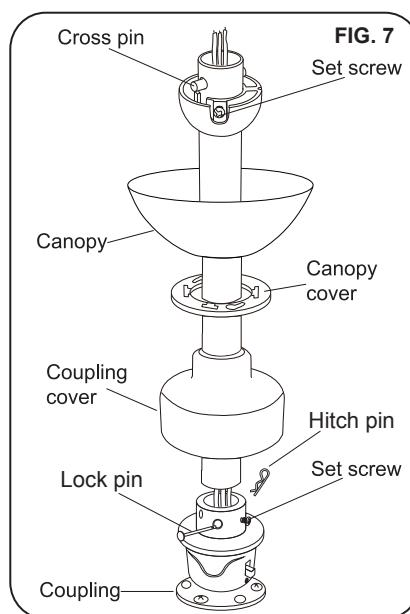
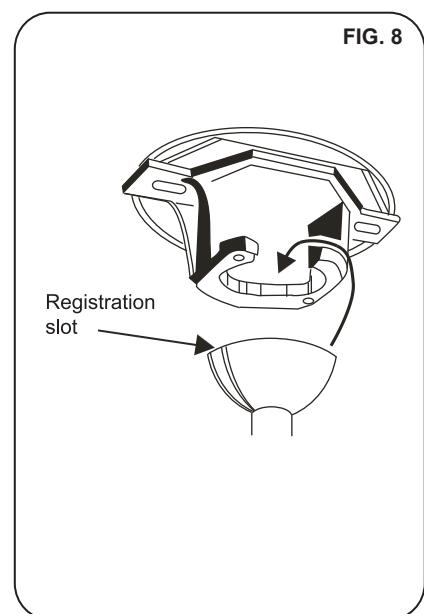

FIG. 7
FIG. 8
Step 2. Loosen the two set screws from the fan motor assembly coupling. Remove the hitch pin and lock pin from the fan motor assembly. (Fig. 7)
Step 3. Remove the hanger ball from the downrod by loosening the hanger ball set screw, and removing the cross pin, then sliding the hanger ball off of the downrod. (Fig. 7)
Step 4. Carefully feed the fan wires up through the downrod. Thread the downrod into the fan motor assembly coupling. Line up the holes and replace the lock pin and the hitch pin. Tighten the set screws. (Fig. 7)
Step 5. Slip coupling cover, canopy cover, and canopy onto downrod (Fig.7). Carefully reinstall hanger ball onto rod being sure that cross pin is in the correct position, set screws are tighten and wires are not twisted. Step 6. Now lift motor assembly into position and place hanger ball into hanger bracket. Rotate until the check groove has dropped into the registration slot and seats firmly. (Fig. 8) Rod should not rotate if this is done correctly.